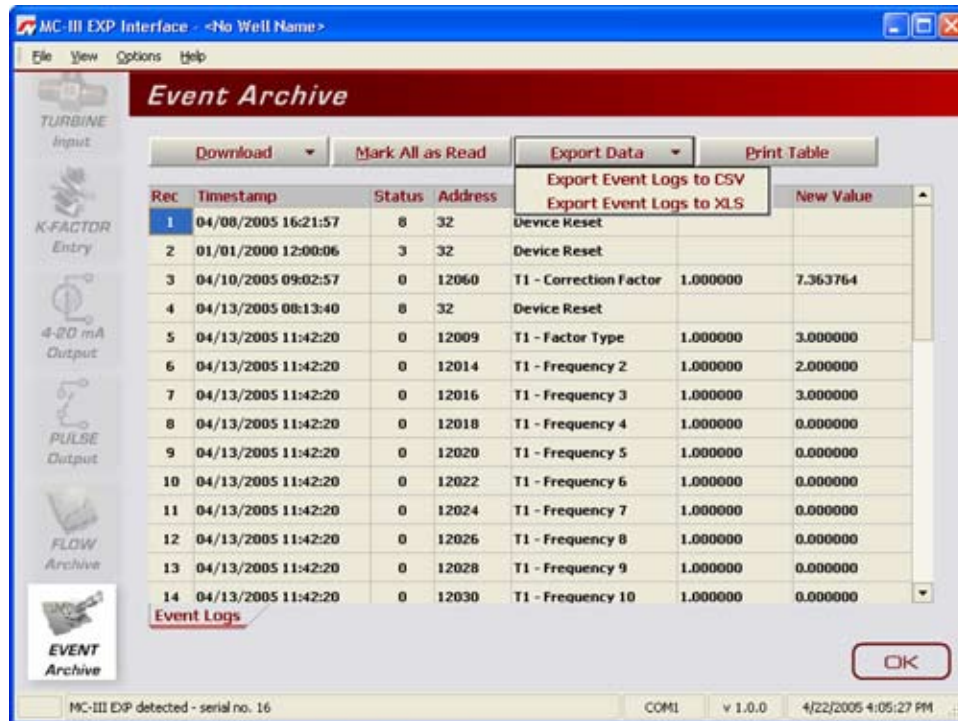

Figure 5.17—Dropdown menu for exporting log data
1. Click the “Export Data” button near the top of the Event Archive screen and select the .xls or .csv format (Figure 5.17, page 83).